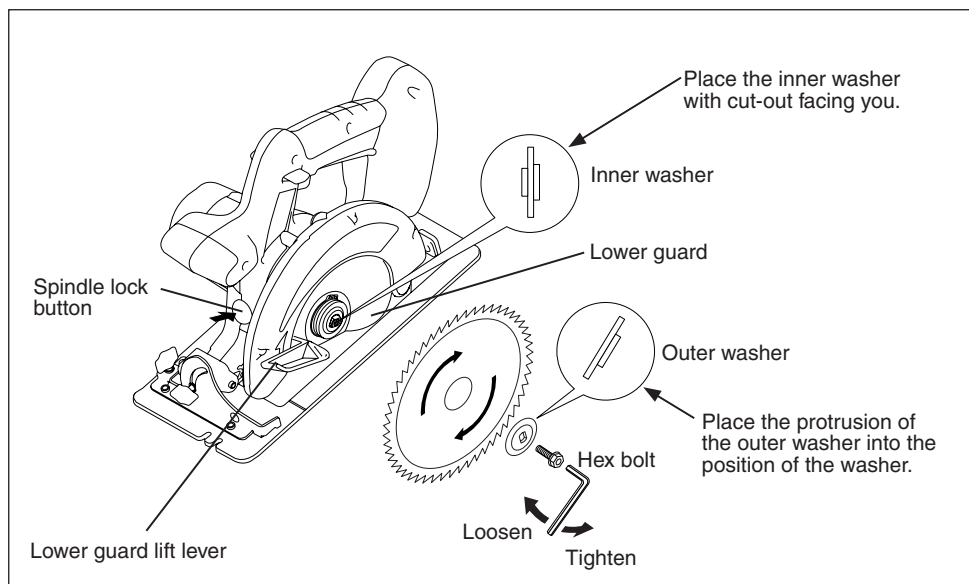

Fig. 14
Follow these steps: (See. Fig.14)
4. Install the blade as illustrated. (See Fig.14)